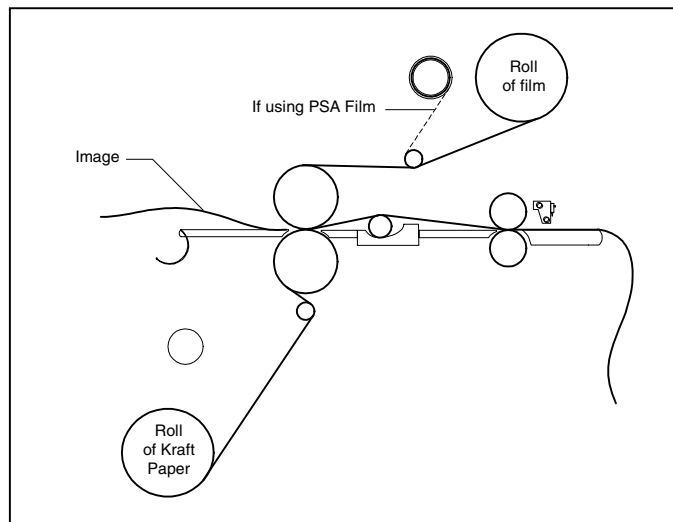

Fig. 38
TIPS FOR SINGLE SIDED LAMINATION (Figure 38)
1. Load the laminator as illustrated in Figure 38.